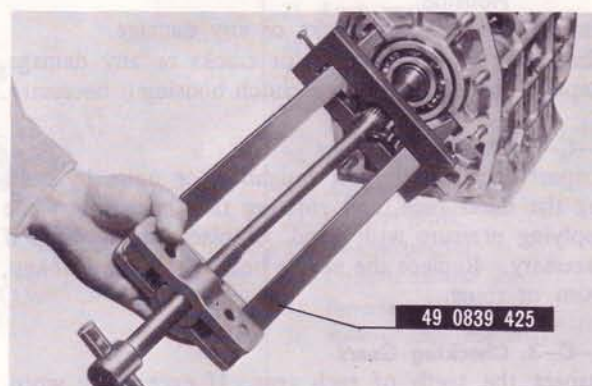

Fig. 7-6 Removing main drive shaft bearing
28. Using the **puller** (Part No. 49 0839 425B) shown in Fig. 7-6, remove the main shaft bearing.